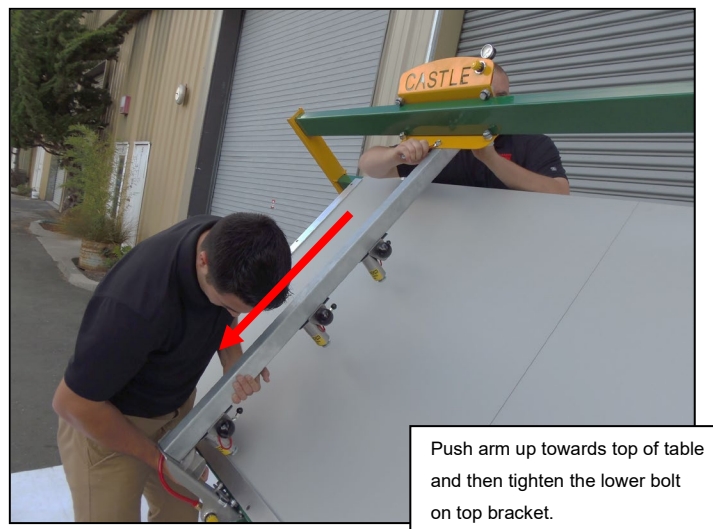

Fig 8
6. Pull down on the bottom bracket to position the lower bracket bearings forward of the front frame flange so the front bracket can be lifted up away from the table. (Fig 8)